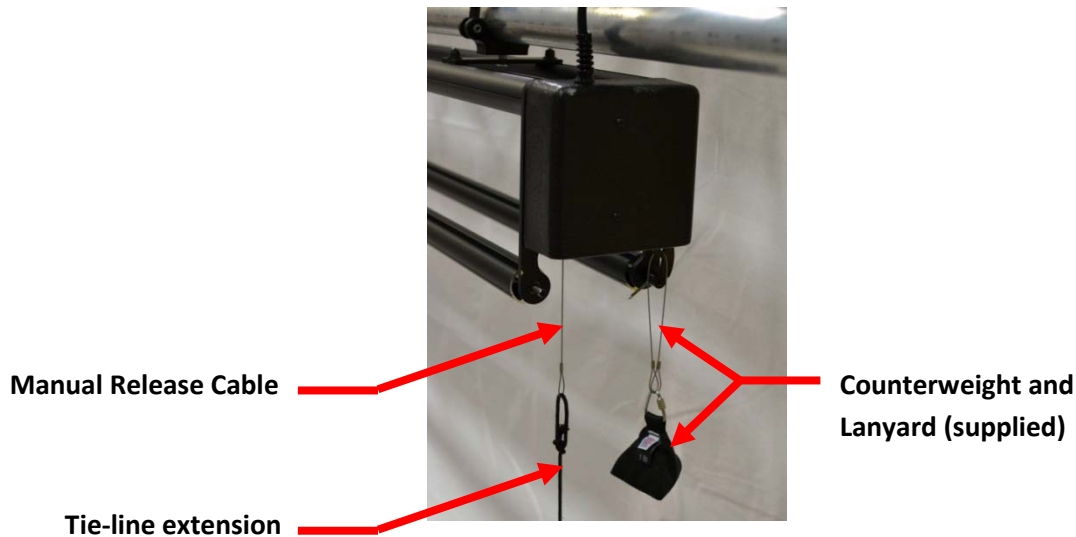

Figure 4
**Step 7:** Rotate **curtain rods** so the **lever** on the end engages and is prevented from rotating. Make sure the **counterweight** (sandbag) and manual release are hanging straight down and unobstructed (refer to Figure 4).
**Step 10:** Re-engage the Kabuki **curtain rod(s)** into their respective latches, again making sure the **counterweight** (sandbag) and manual release are hanging straight down and unobstructed (refer to Figure 4).